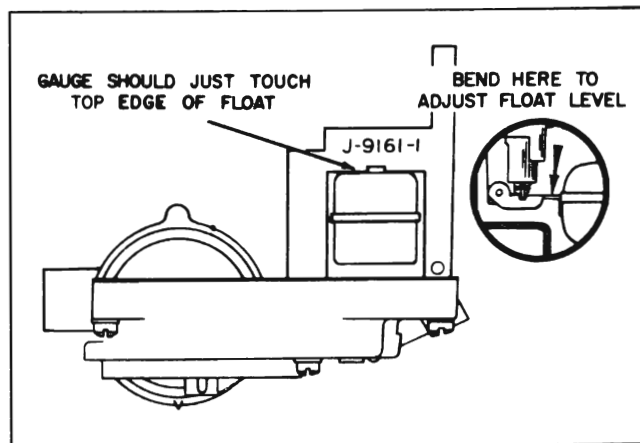

Figure 3-23—Float Level Adjustment
11. Adjust Float Level. With air horn assembly inverted, position Float Level Gauge (1-17/64") of Gauge Set J-9161 over float so it rests against pump side of power piston shaft, with outer leg in line with center of float. Bend float arm as required to adjust float level. See Figure 3-23.